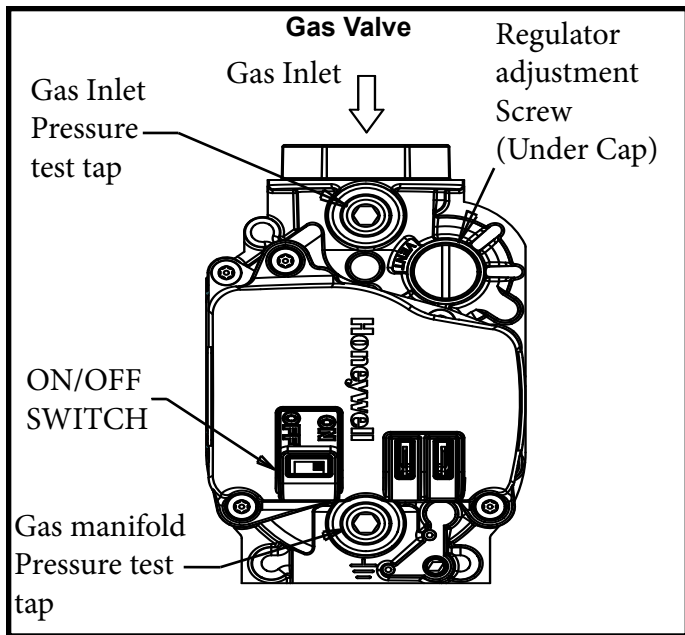

Figure 6
3. Move the gas valve ON/OFF switch to the "ON" position (see Figure 6).
2. Move the ON/OFF switch to the "OFF" position (see Figure 6).